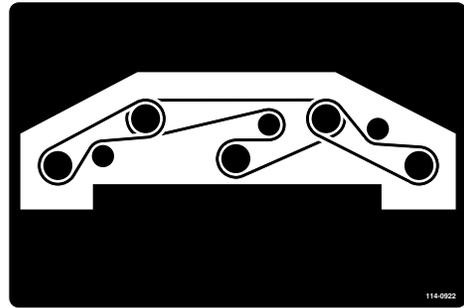

Figure 129
8. Route the new belt around the spindle pulleys and idler-pulley assembly (Figure 129).